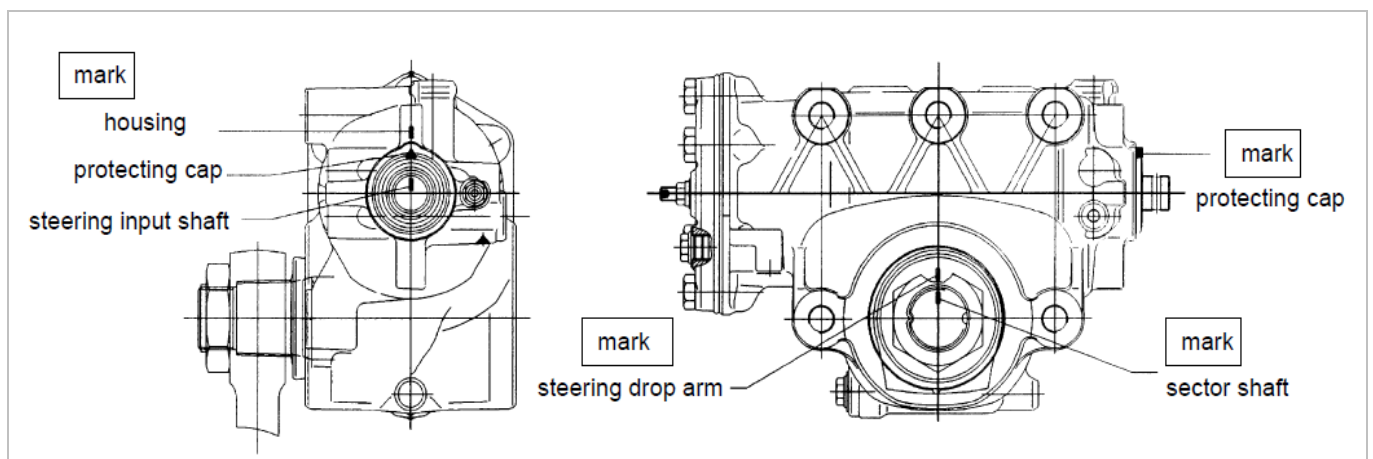

Fig. 23: Re-installing the steering gear
3. Then continue to rotate until the marks (see Fig. 23) on the input shaft, the protection cap and the housing coincide.
2. Put the drop arm on the serration, making sure that the marks on the drop arm and on the sector shaft coincide (refer to Fig. 23).
3. Screw the locking nut (50) on and tighten it, applying the torques specified below.